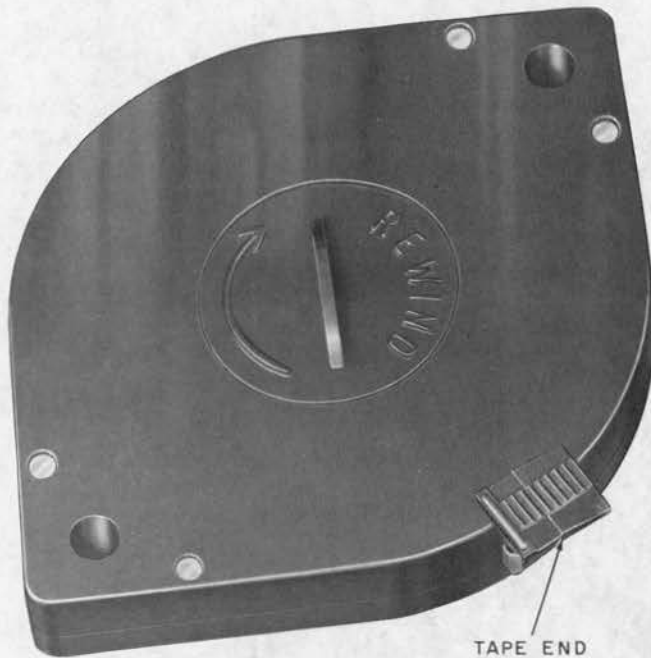
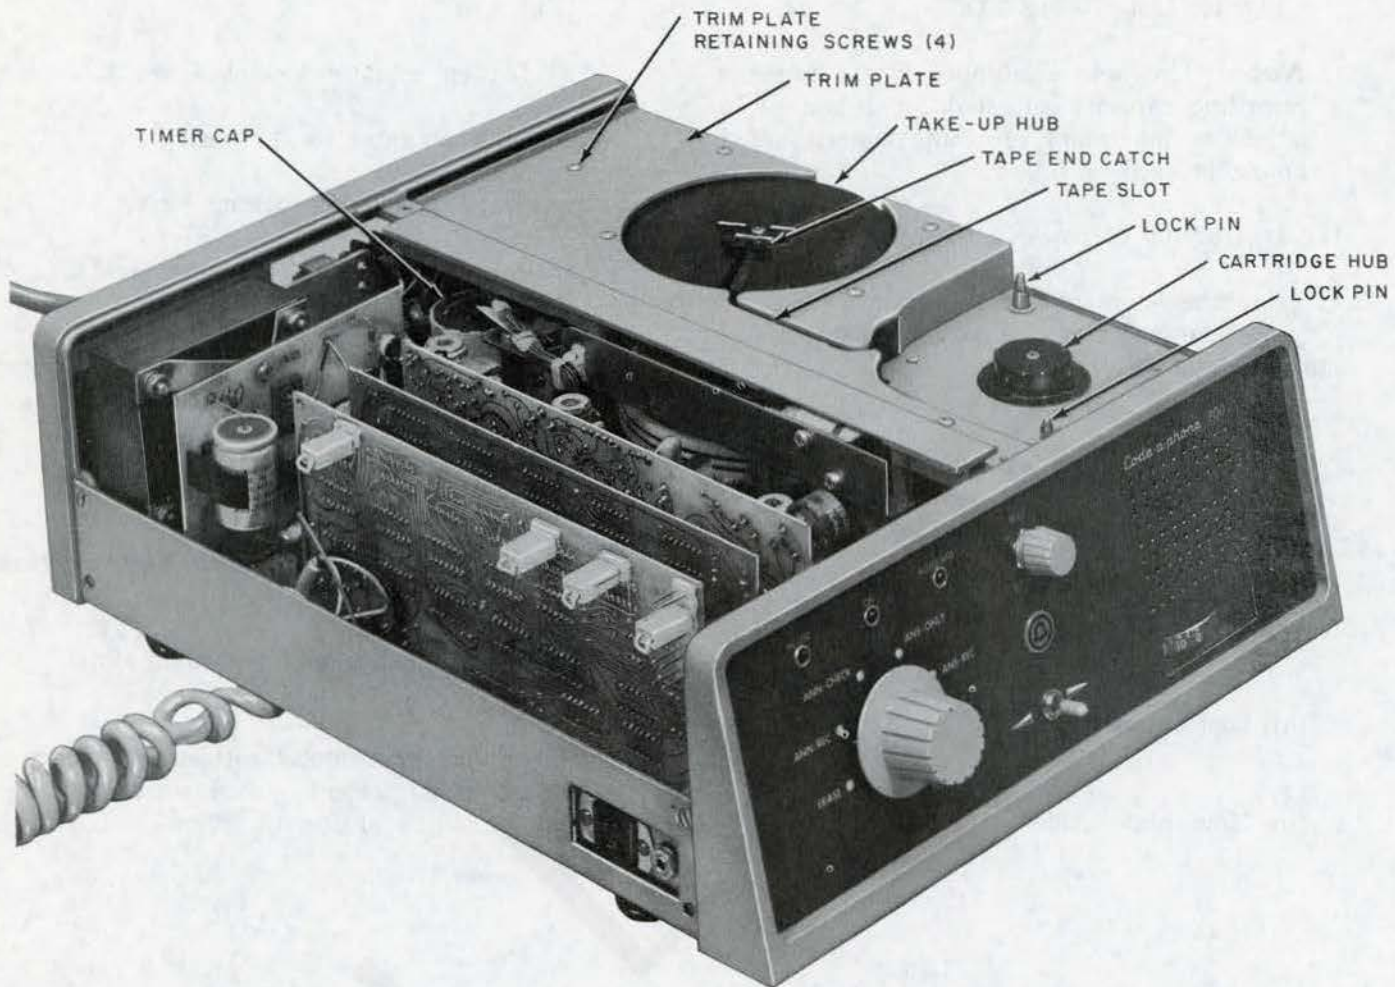
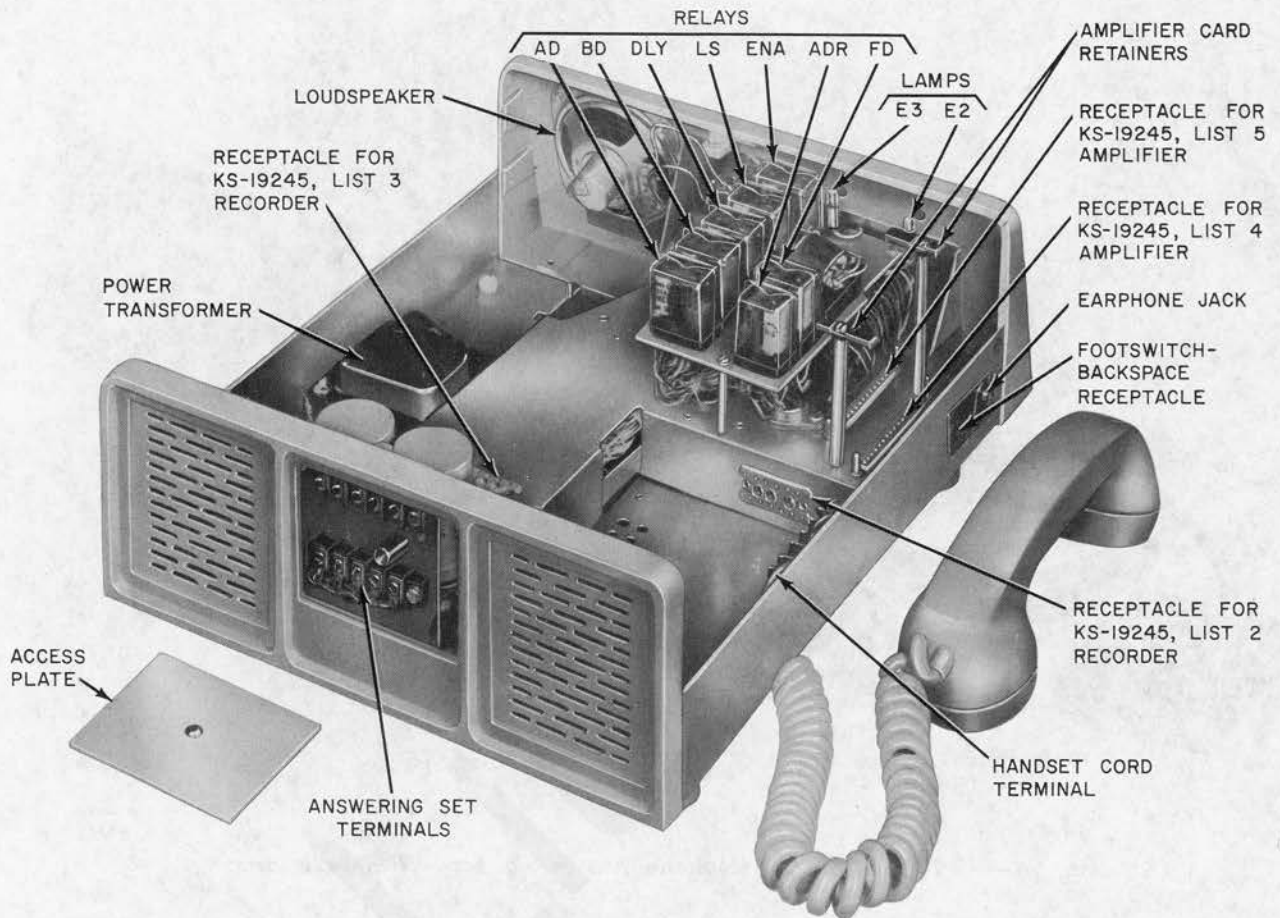

Fig. 9—KS-19245, List 6 Cartridge
Fig. 22—KS-19245, List 13 Telephone Answering Set—Cover Removed
Fig. 23—KS-19245, List 1 Telephone Answering Set—Cover and Components Removed
(e) KS-19245, List 6 Cartridge (Fig. 9) provides a 1/4-inch wide plastic base magnetic recording tape with a capacity for 2 hours of incoming message recording time.
- (1) Set function selector to OFF.
- (2) Place cartridge (Fig. 9) over cartridge lock pins and hub (Fig. 22) and press down into place.
- (3) Slide tape end (Fig. 9) through tape slot (Fig. 22) and into slot of take-up reel and lock into place.
4.14 Cartridge Removal (Fig. 22):
- (2) List 1 set only:
- (a) Loosen amplifier board retainers (2) (Fig. 23).
- (3) List 13 set only:
- (a) Remove the four trimplate retaining screws (Fig. 22).